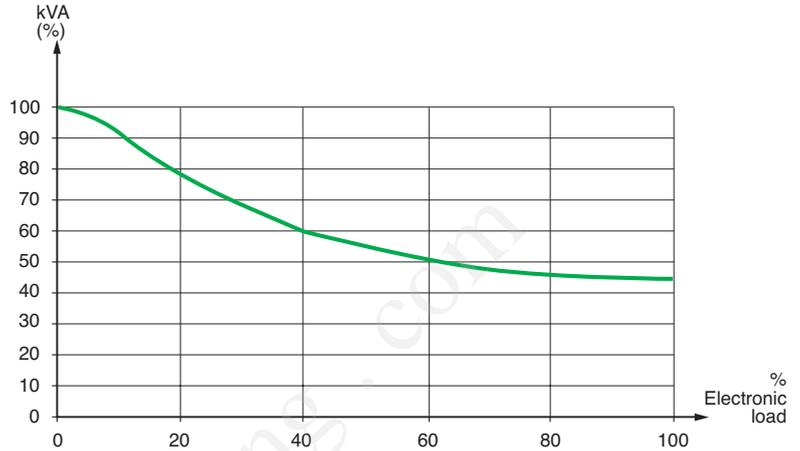

Fig. M9 : Derating required for a transformer supplying electronic loads
■ The curve presented below (see Fig. M9) shows the typical derating required for a transformer supplying electronic loads